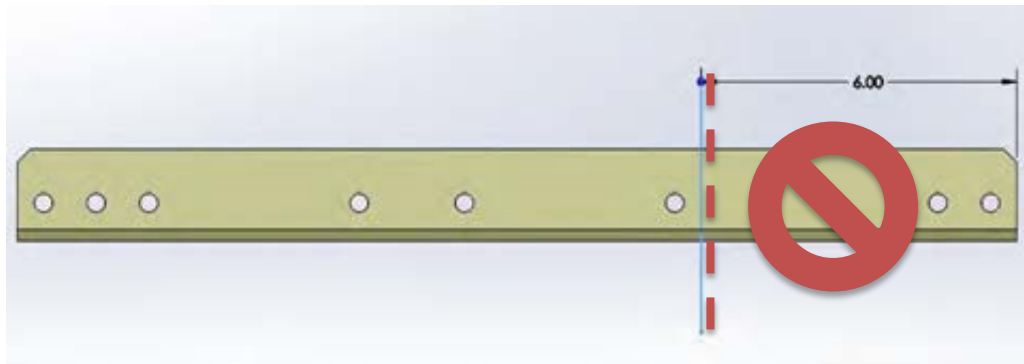

Figure 18. Support rail length for a PV module with a tilt angle of 65°
- c. For an optimum tilt angle of 65°, cut and discard the section 6 inches from the right as shown in **Figure 18**.